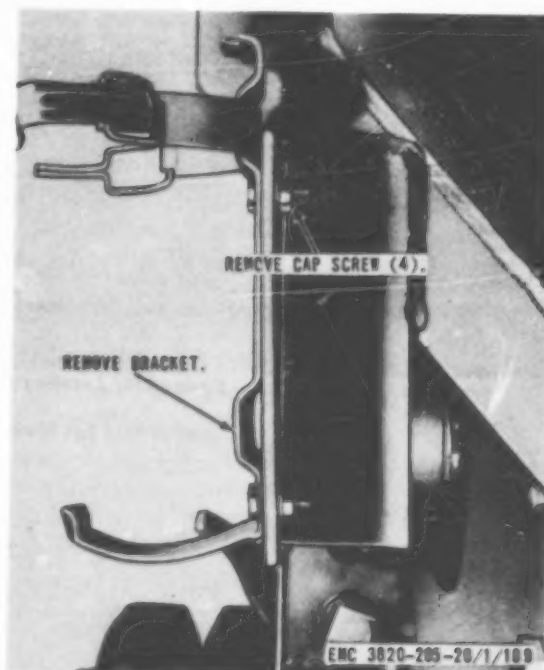

Figure 116. Fire extinguisher bracket, removal and installation.
- (1) Remove the fire extinguisher from the bracket.
- (2) Remove the fire extinguisher bracket from the unit as instructed on figure 116.
- (1) Install the fire extinguisher bracket on the unit in reverse of the instructions on figure 116.
- (2) Install the fire extinguisher (TM 5-3820-205-10/1).